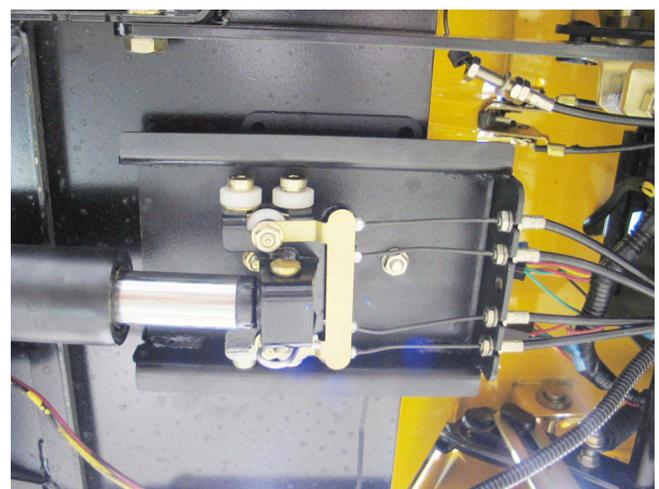

Figure 12.27
12.27. On mowers produced after November of 2005, the cable bracket assembly was changed. The bottom lip of the current brackets flares outward, while the earlier ones are bent in. See Figure 12.27.